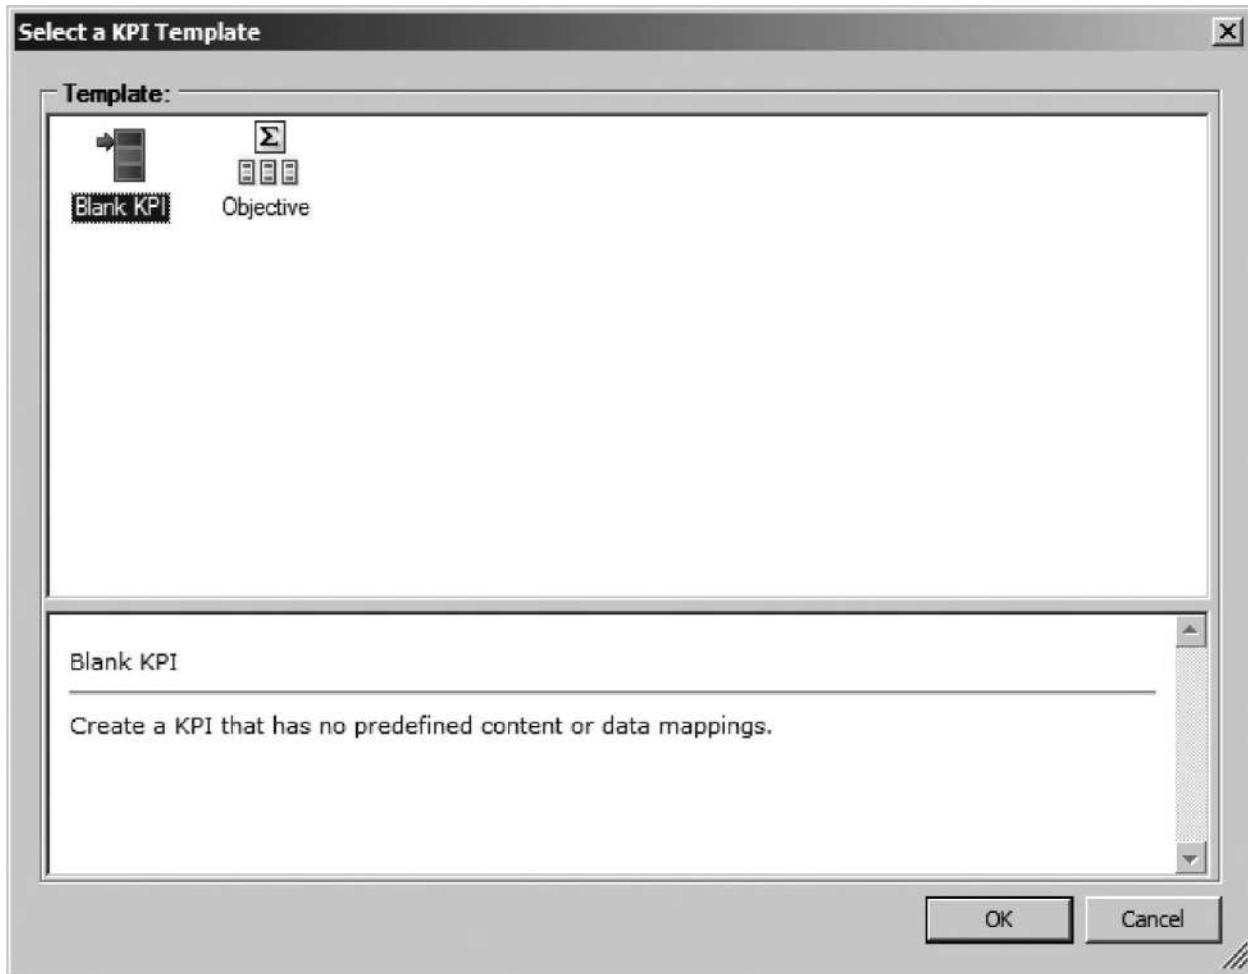

**Figure 17-50** The Dashboard Designer with a new data connection
10. Select Max Min Manufacturing DM from the Cube drop-down list. The Dashboard Designer should appear similar to Figure 17-50.